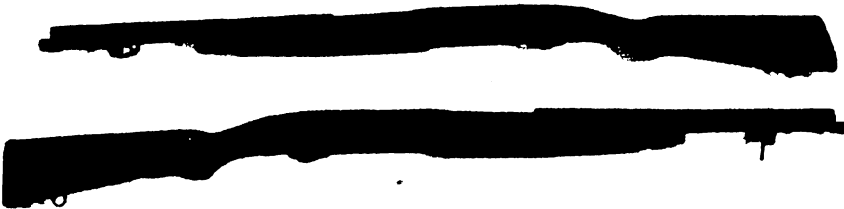

Figure 13
13. Identify the M1200 (fig. 13).